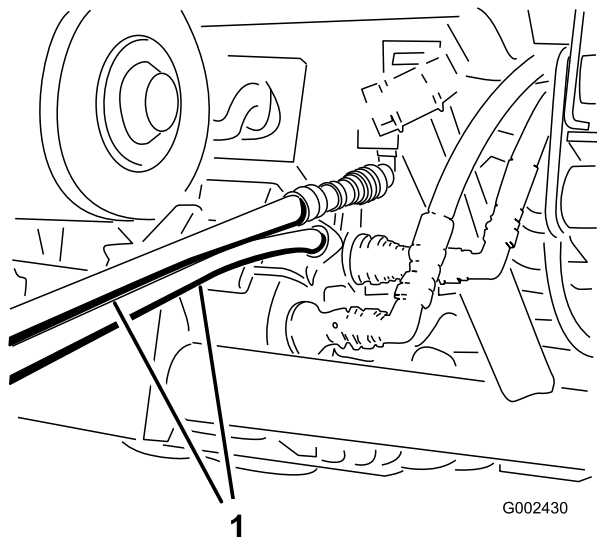

Figure 70
5. On the other machine, connect the 2 hoses to the coupler still in the coupler bracket (connect the top hose to the top coupler and the bottom hose to the bottom coupler) (Figure 70).